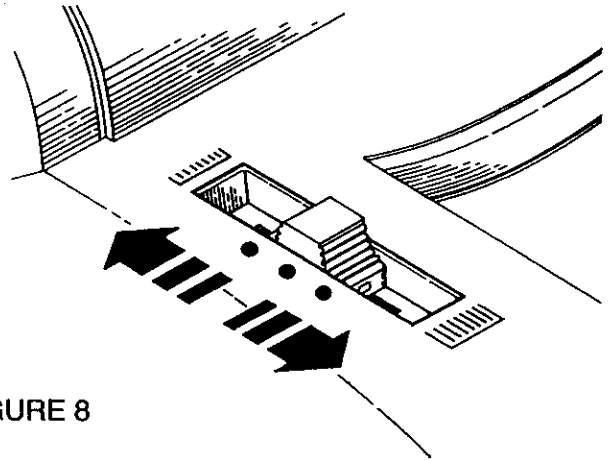

FIGURE 8
- With the machine "Off" and in the upright position, push the Slide to the top for low pile (), to the center for medium pile, and to the bottom for high pile (). Adjust to a higher setting if you find it difficult to push the machine. (Figure 8)